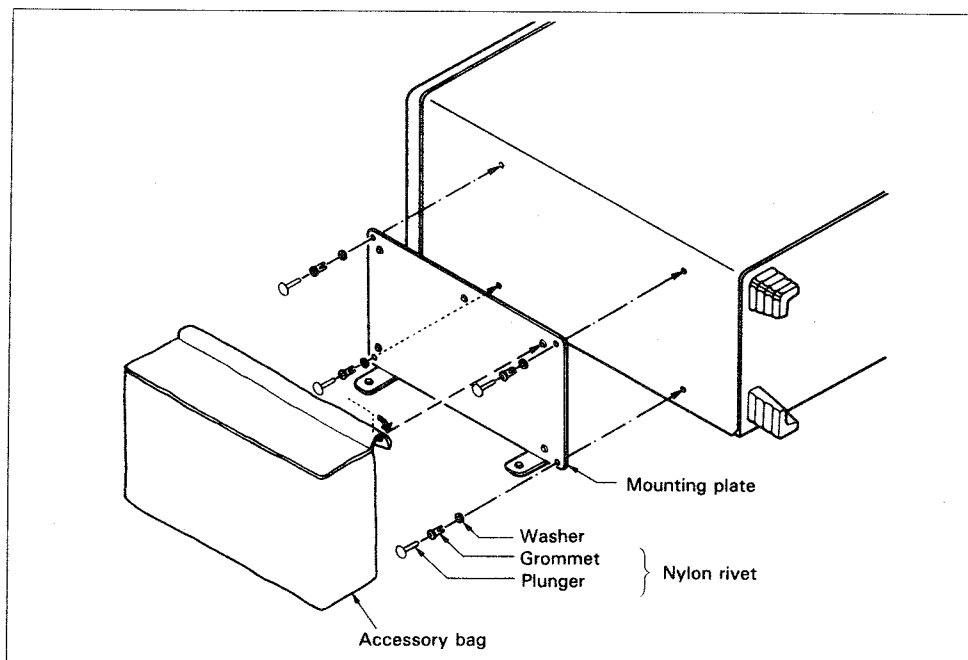

Figure 25 Attaching Accessory Bag
- 2) Line up the four holes on the right side (viewed from the front) of the oscilloscope with the corresponding four holes in the mounting plate. Fix the mounting plate to the oscilloscope case with the four nylon rivets and washers provided. Be sure that the mounting plate is in the vertical position as shown in Figure 25. Insert the grommet into the holes first, then press the plungers.